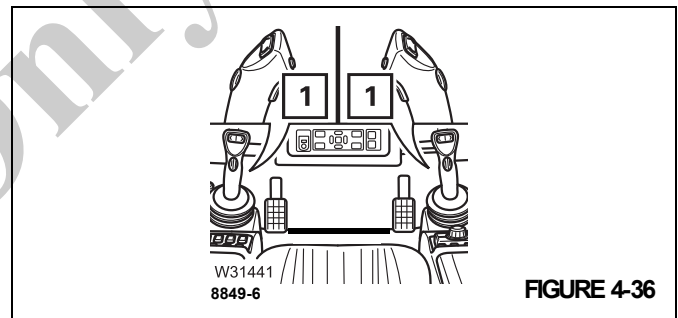

FIGURE 4-36
4. Do not press either dead man's switch (1), (Figure 4-36).